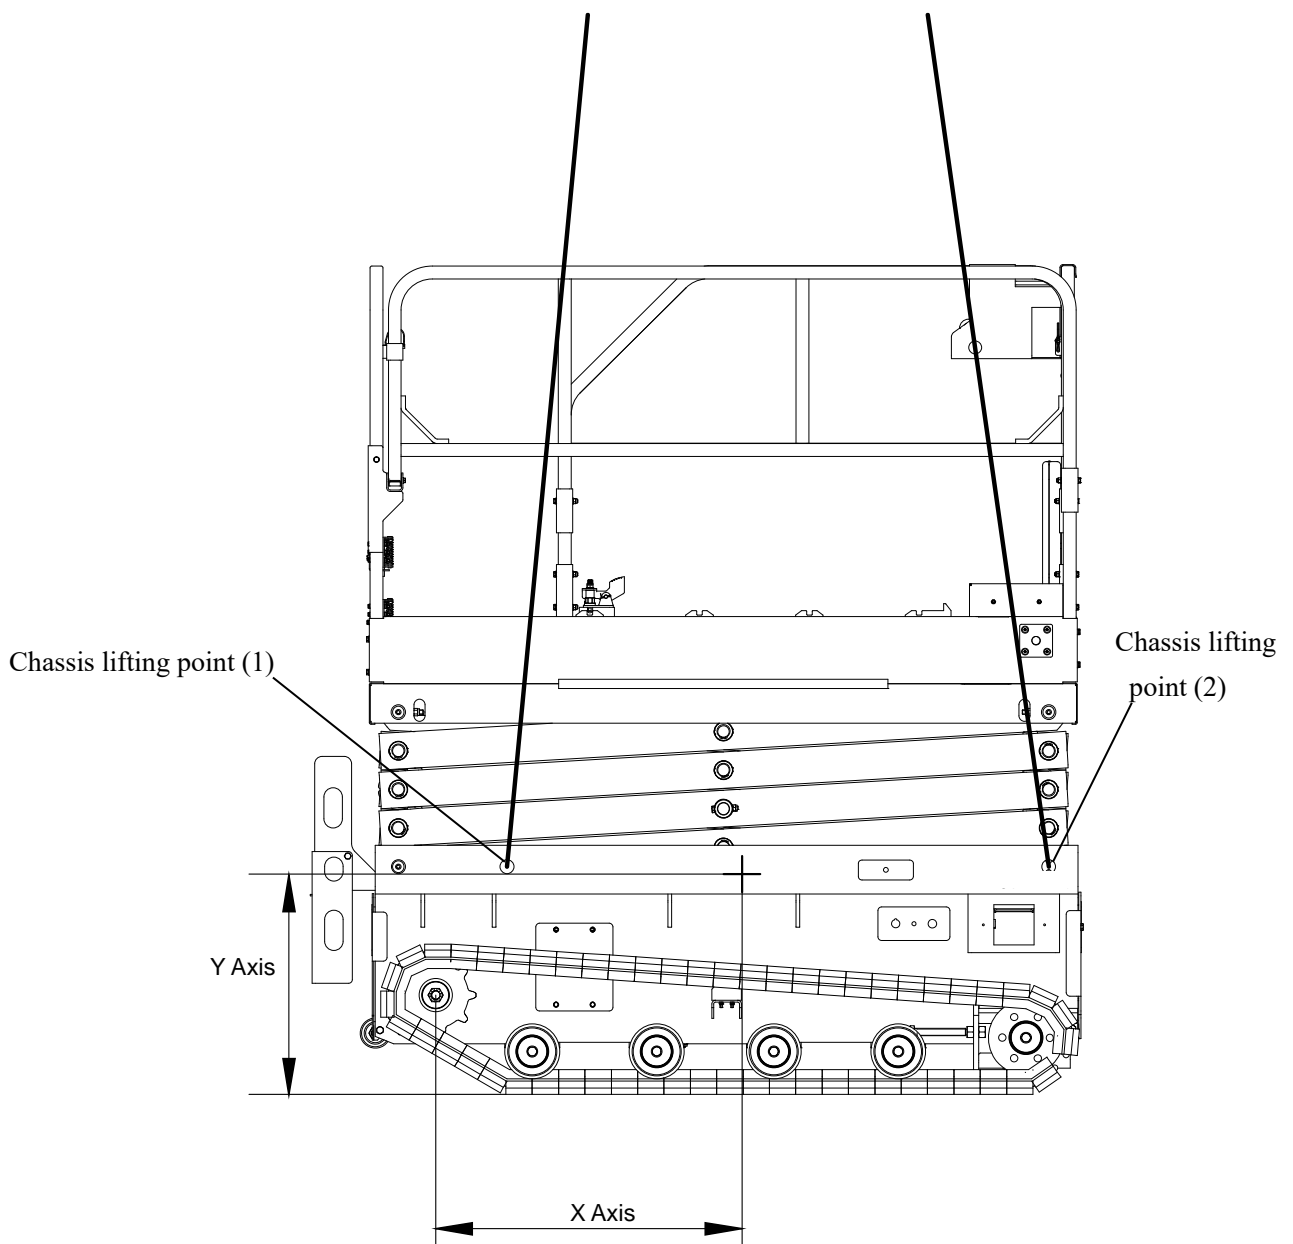
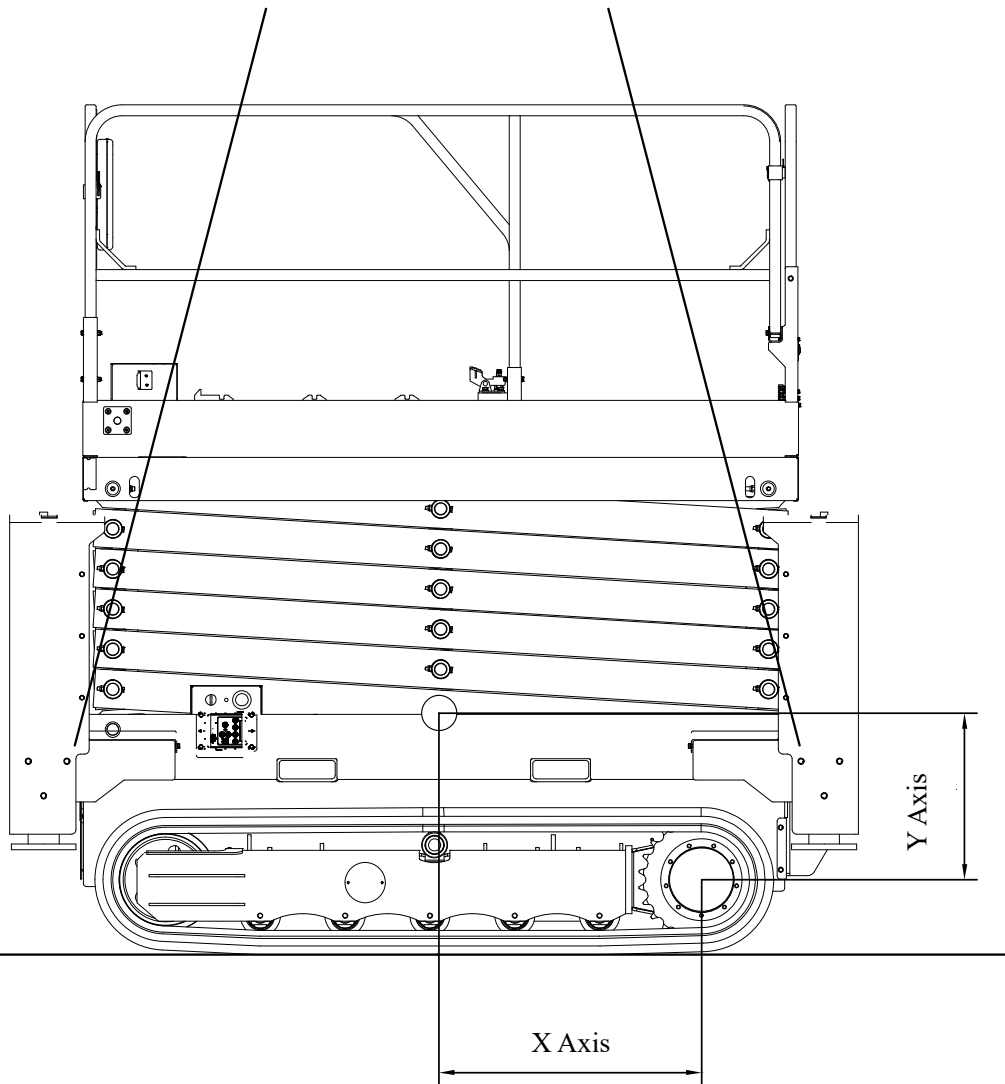

Figure 4-7 ZS0508C/ZS0610C Series Center of gravity
Figure 4-8 ZS1216C Series Center of gravity
- 2) Use Table 4-6 and Figure 4-7 or Figure 4-8 to determine the center of gravity of the machine.